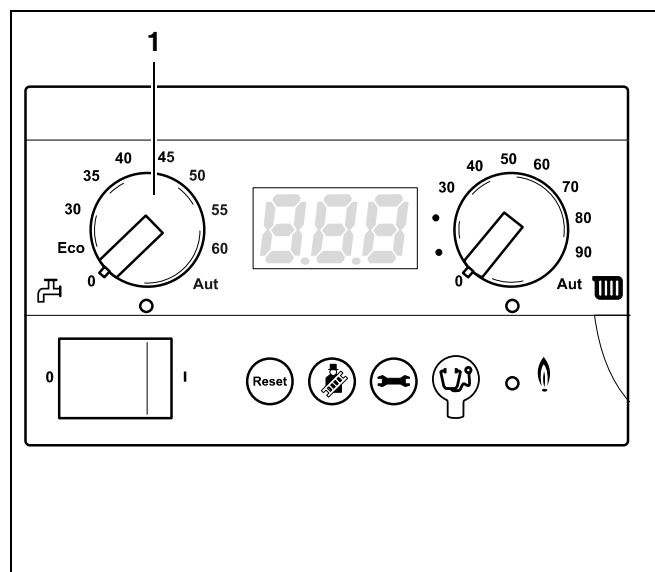

fig. 17 BC10 basic controller
- Set the DHW temperature dial (fig. 17, **item 1**) to the required temperature of the hot water in the hot water cylinder (see table 4).